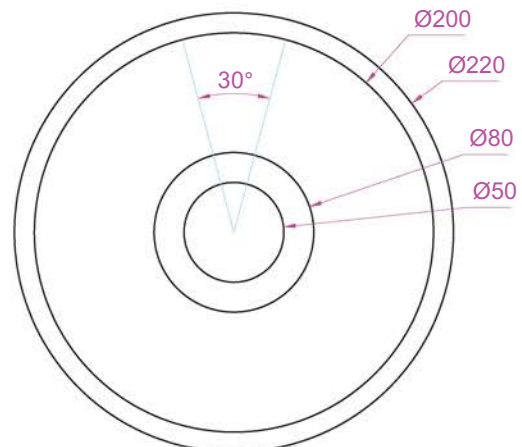

Fig. 6.45 Exercise 4 – circles and lines on which the exercise is based
4. Construct the circles and lines (Fig. 6.45). Using **Offset** and the **Ttr** prompt of the **Circle** tool followed by **Trim**, construct one of the outlines arrayed within the outer circle. Then, with